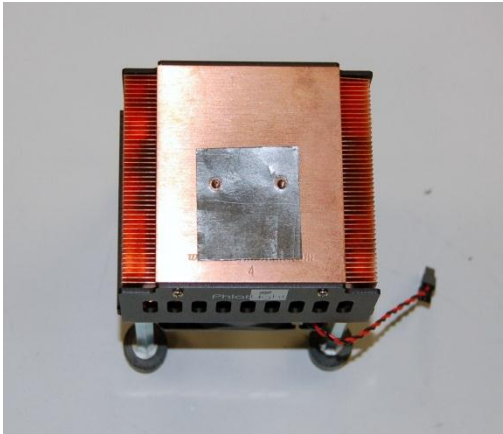

Figure 8: Thermal interface sheet on heat sink
- The heat sink surface must be free of dust particles. Place the thermal interface sheet on the heat sink with its pre-drilled holes matching the holes on the heat sink (Figure 8).